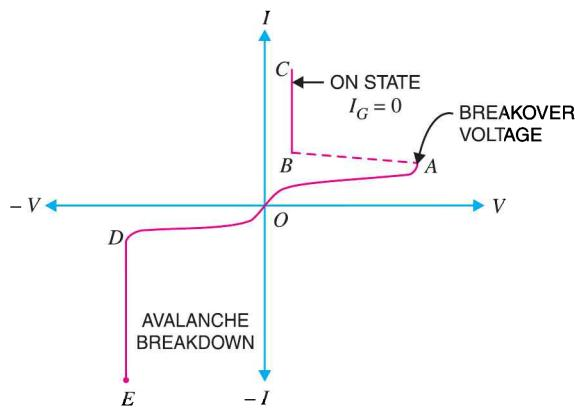

Fig. 20.7
It is the curve between anode-cathode voltage (V) and anode current (I) of an *SCR* at constant gate current. Fig. 20.7 shows the *V-I* characteristics of a typical *SCR*.
(i) **Forward characteristics.** When anode is positive *w.r.t.* cathode, the curve between V and I is called the forward characteristic. In Fig. 20.7, *OABC* is the forward characteristic of *SCR* at $I_G = 0$. If the supply voltage is increased from zero, a point is reached (point *A*) when the *SCR* starts conducting. Under this condition, the voltage across *SCR* suddenly drops as shown by dotted curve *AB* and most of supply voltage appears across the load resistance R_L . If proper gate current is made to flow, *SCR* can close at much smaller supply voltage.